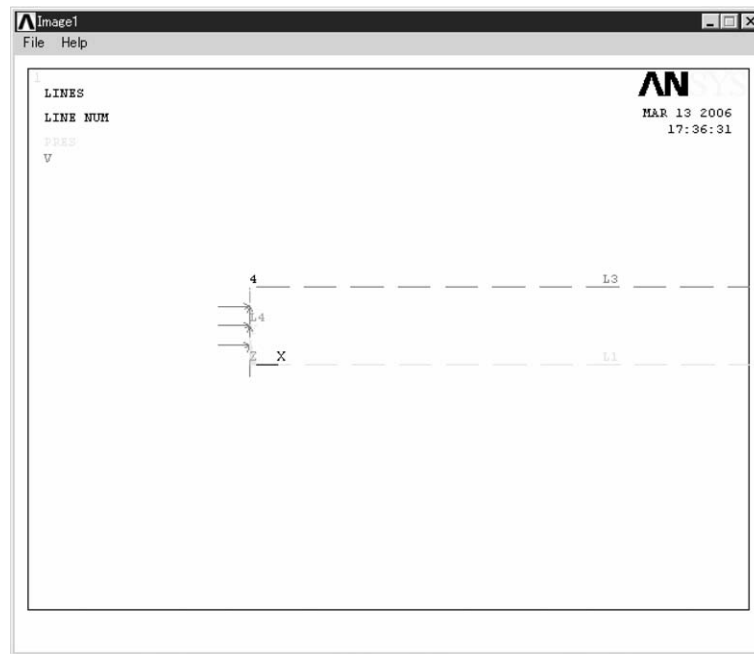

Figure 5.22 ANSYS Graphics window.
- (2) Input [B] **20** to **VX** box and [C] **0** to **VY** box. Then, click [D] **OK** button. The sign of setting boundary condition appears on **ANSYS Graphics** window as shown in Figure 5.22.
- (3) Set boundary conditions to all lines listed in Table 5.4.